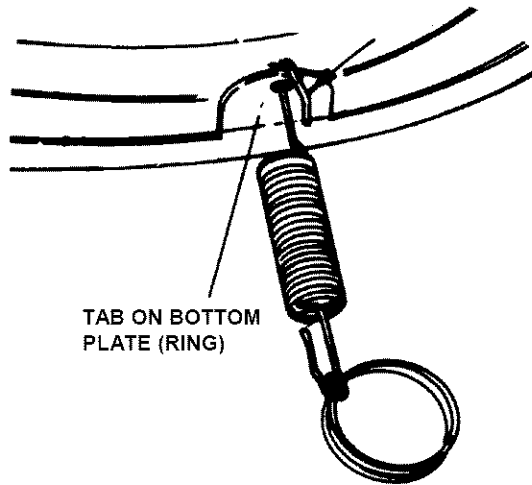

Figure 3 - Spring Connection Detail
3. Hook the ends of the springs over the tabs on the bottom plate as shown. See Figure 3. After hooking the springs on the tabs, use pliers to squeeze each hook closed over the tab.